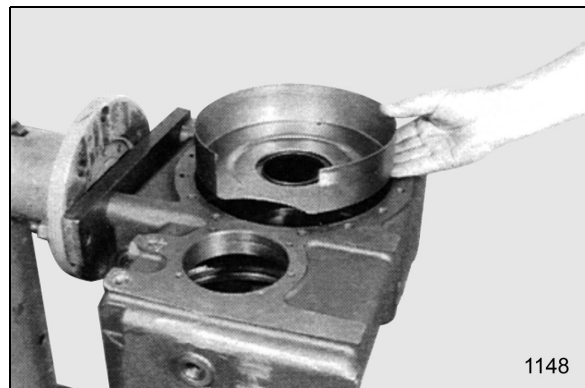

Figure 95
7. Note installation position (Figure 95) and install baffle plate firmly against shoulder.